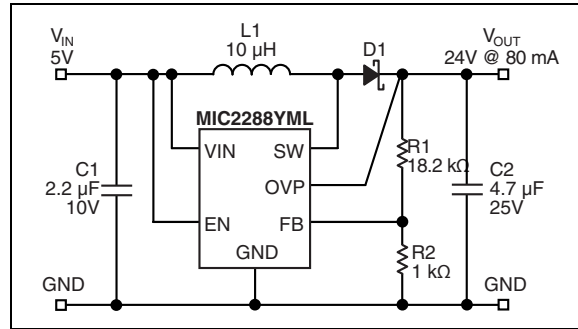

FIGURE 6-8: 5 V_{IN} to 24V V_{OUT} @ 80 mA.
- Updated part numbers C2 and L1 (Figure 6-8).